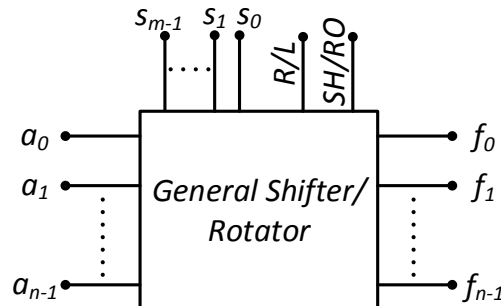

Figure 4: General shifter/rotator module
- Write a Verilog description of a parametric general shifter/rotator network as shown in Figure 4 .